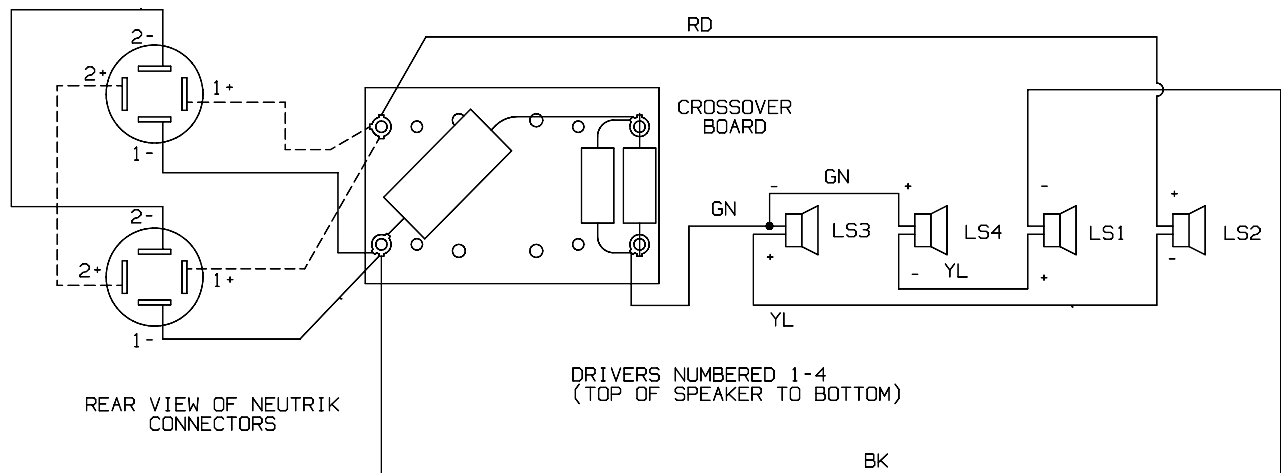

Figure 4. Crossover PCB Wiring Diagram
1.2 All driver cones should move outward. Referring to figure 4, rewire any driver that moves inward.